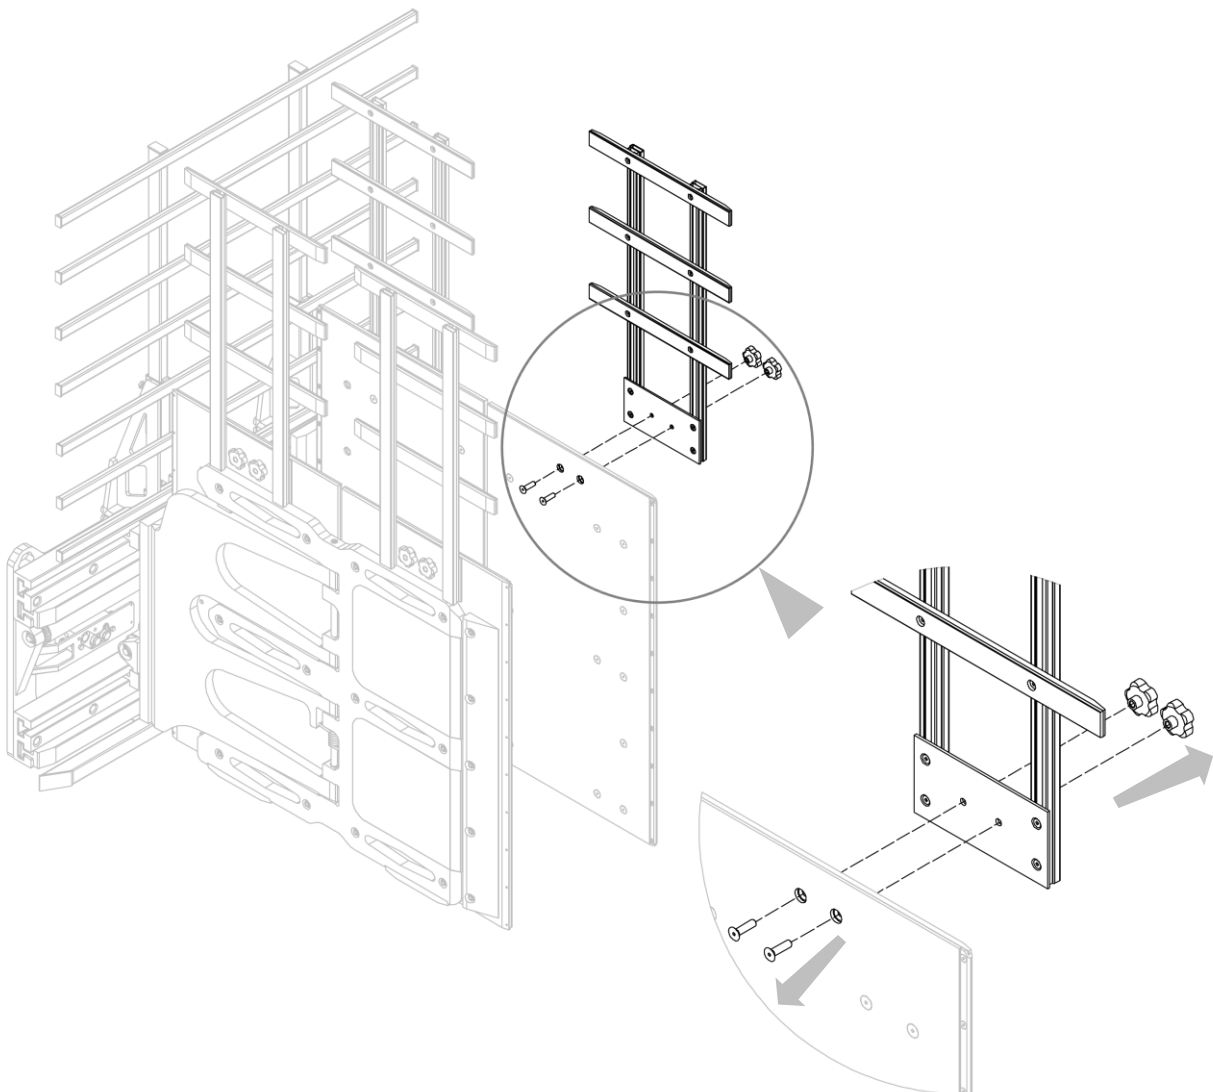

Figure 58
2. Remove the side load-retaining frames by unscrewing the screws and knobs that secure them to the panels (see *Figure 58*).